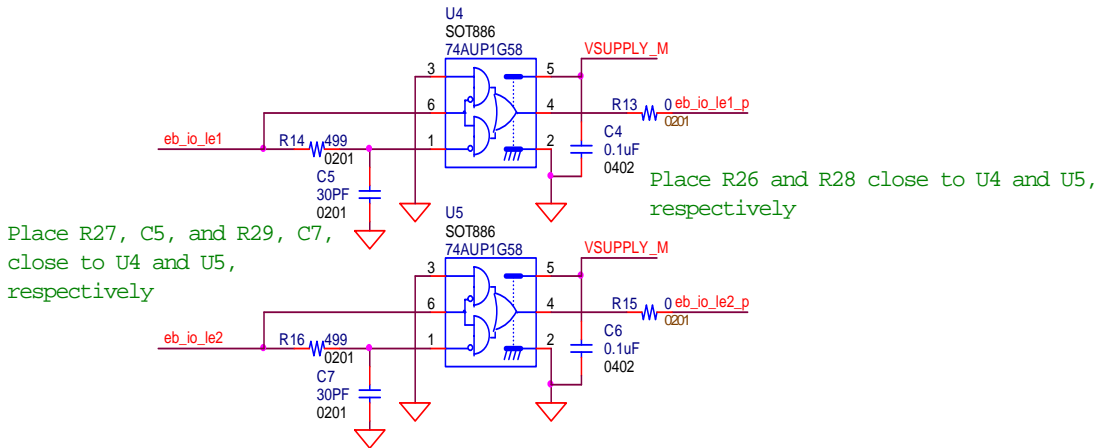

Figure 3 Eterna Extended Memory Example Schematic (page 2 of 2)
The schematic shown in Figure 2 and Figure 3 includes all the external connections and components necessary to add the external RAM. The connections differ from the LTP5901-IPRA as follows:
- 3) The Memory, latches and pulse generators shown in Figure 3